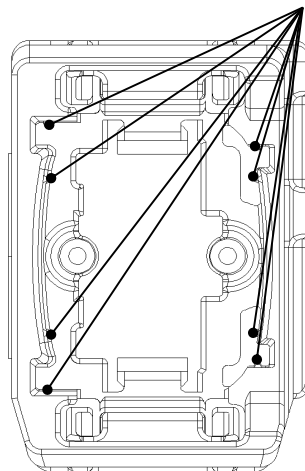

Figure-12
- 2) Outer housing has ribs (Figure-12) to restrict rattling between connector. Care should be taken not to crush the ribs during the check.